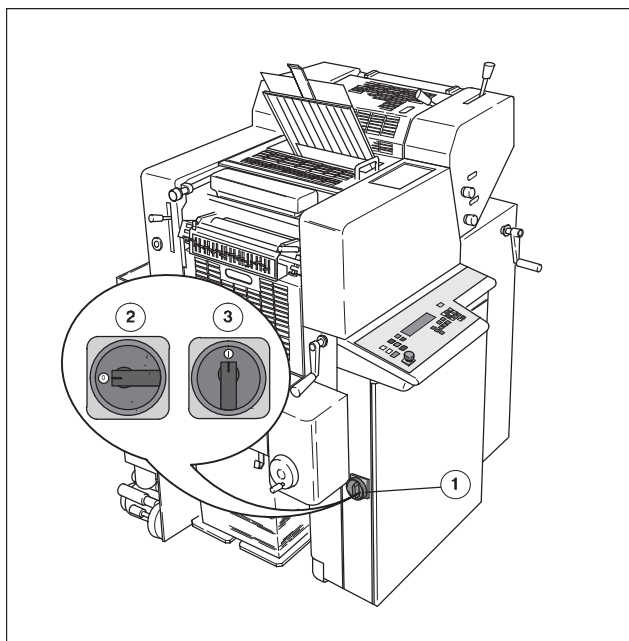

Fig. 4 Main switch
The main switch is located at the control cabinet below the control console on the delivery side on two-color presses (Fig. 4/1).
- Position **O** (Fig. 4/2): press is de-energized.
- Position **I** (Fig. 4/3): press is switched on.